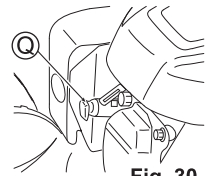

Fig. 30
1. Remove the spark plug cap (Q). (See Fig. 30)